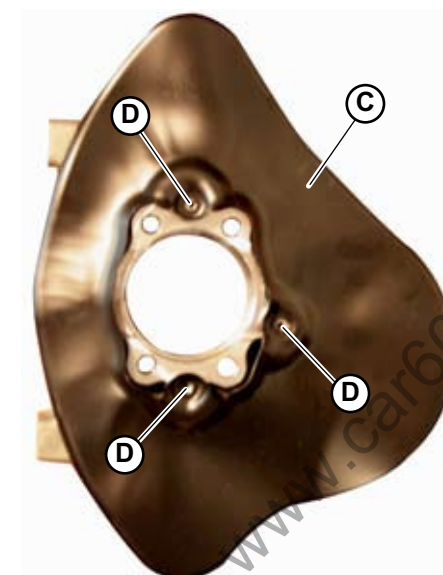

Fig.4
3. To remove the hub housing bulkhead (C-Fig.4), loosen 3 screws (D-Fig.4).